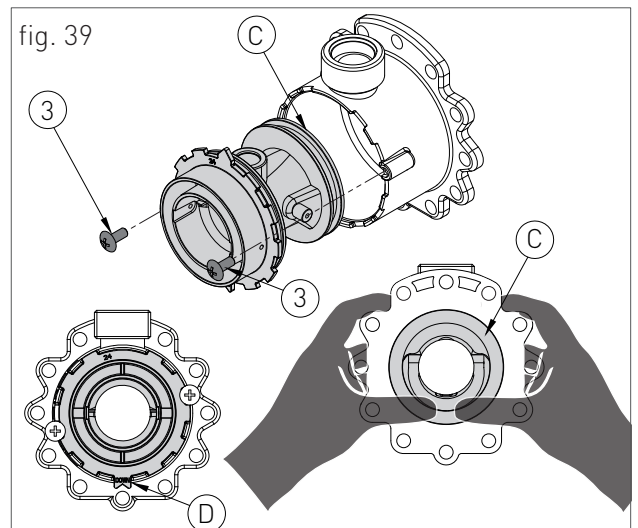

fig. 39
- › remove the two screws '3' (fig. 39) and apply pressure on the rear side of venturi 'C' (fig. 39);
- › replace the venturi with the one suitable for the type of supply gas (cod. 30-00227 for NATURAL GAS / cod. 30-00228 for PROPANE), and make sure the tooth 'D' (fig.39) is adjusted downwards on the aluminium ring nut (see fig.39);